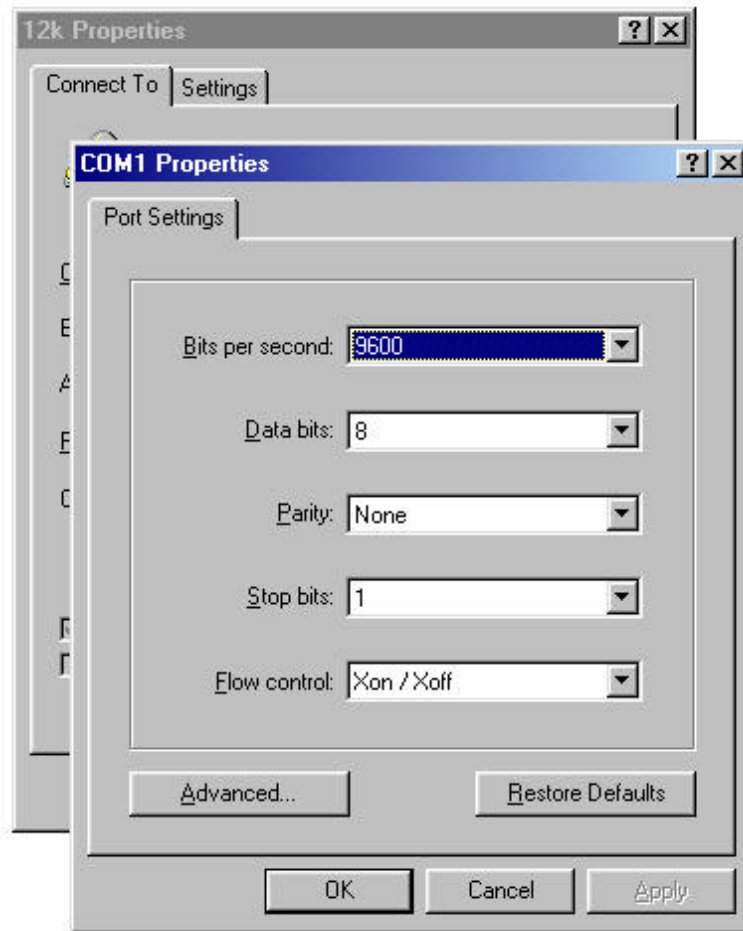

Figure 2-6 Port Settings for Hyper Terminal in Windows[®] 95/98
6. Click the Configure... box. This will bring up the Port Setting dialog box. Enter the settings shown in Figure 2-6.